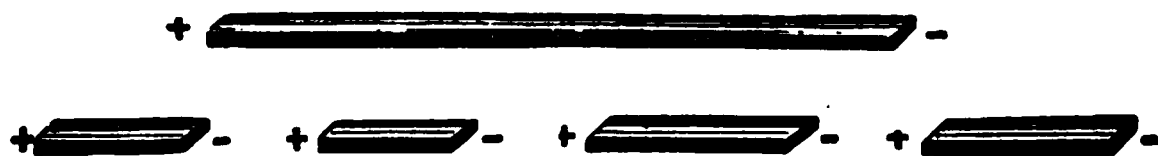

Fig. 74. The result of Breaking a Magnet is Several Short Magnets.
(5) Pounding or jarring a permanent magnet weakens it. So does heating it red hot.
(6) If a magnet is broken, each piece is a perfect magnet with two poles. No matter into how many pieces you break a magnet, each is still a magnet. See Fig. 74.
(7) If a thick piece of steel is magnetized and then laid in nitric acid for some time, when the outer surface has been eaten off, a test for magnetism will show that the bar has lost almost all its polarity. Magnetism is *evidently only skin deep*.
(8) Four bars $6 \times 1 \times \frac{1}{4}$ inches magnetized and